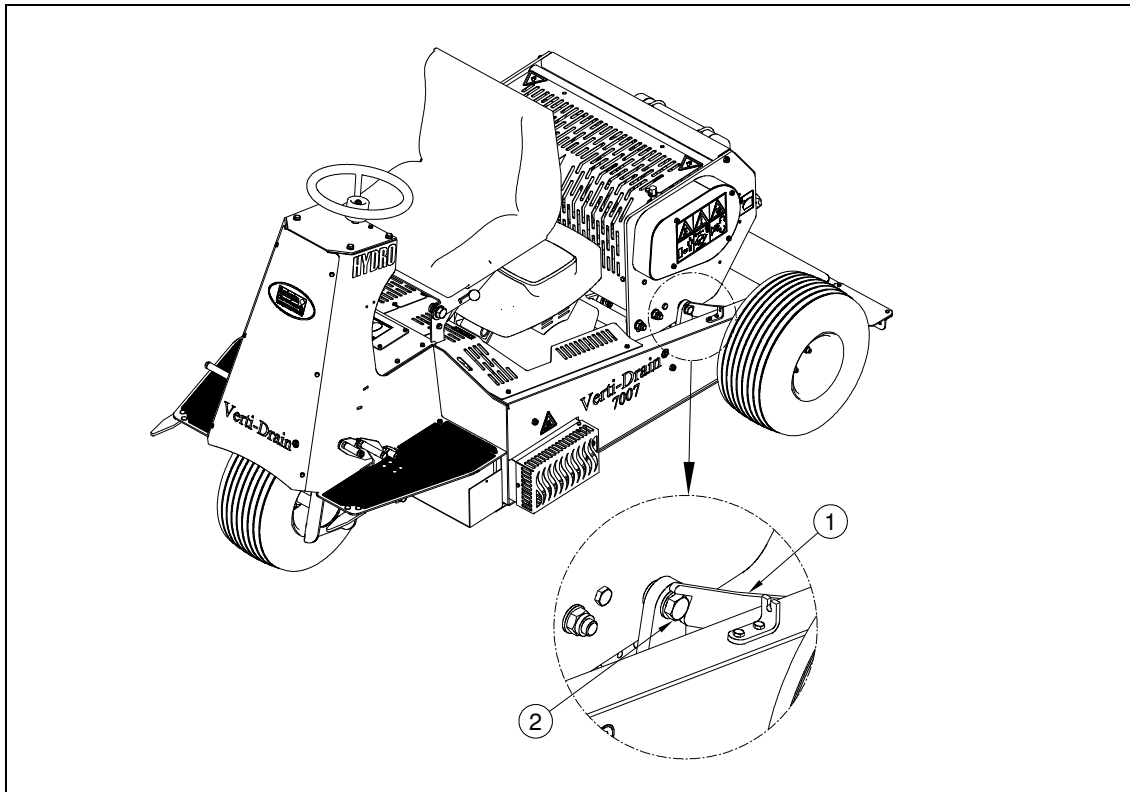

Fig. 19
When the Verti-Drain® is not being used for a longer period, the Verti-Drain® unit may drop. There is a blocking mechanism on the machine to avoid this situation. When the Verti-Drain® is no longer operational, the blocking strip (1) can be turned towards the Verti-Drain® with the Verti-Drain® in the top position until it touches the bolt (2) of the turning arm as indicated in fig. 19.